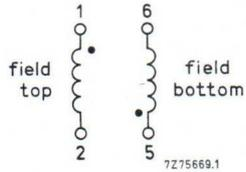

Fig. 2b Field coils.
**Field deflection coils**, parallel or series connected (Fig. 2b);